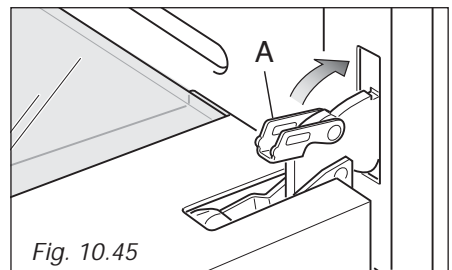

Fig. 10.45
4. Unlock the oven door by opening it completely and closing the lever **A** on the left and right hinges (fig. 10.45).